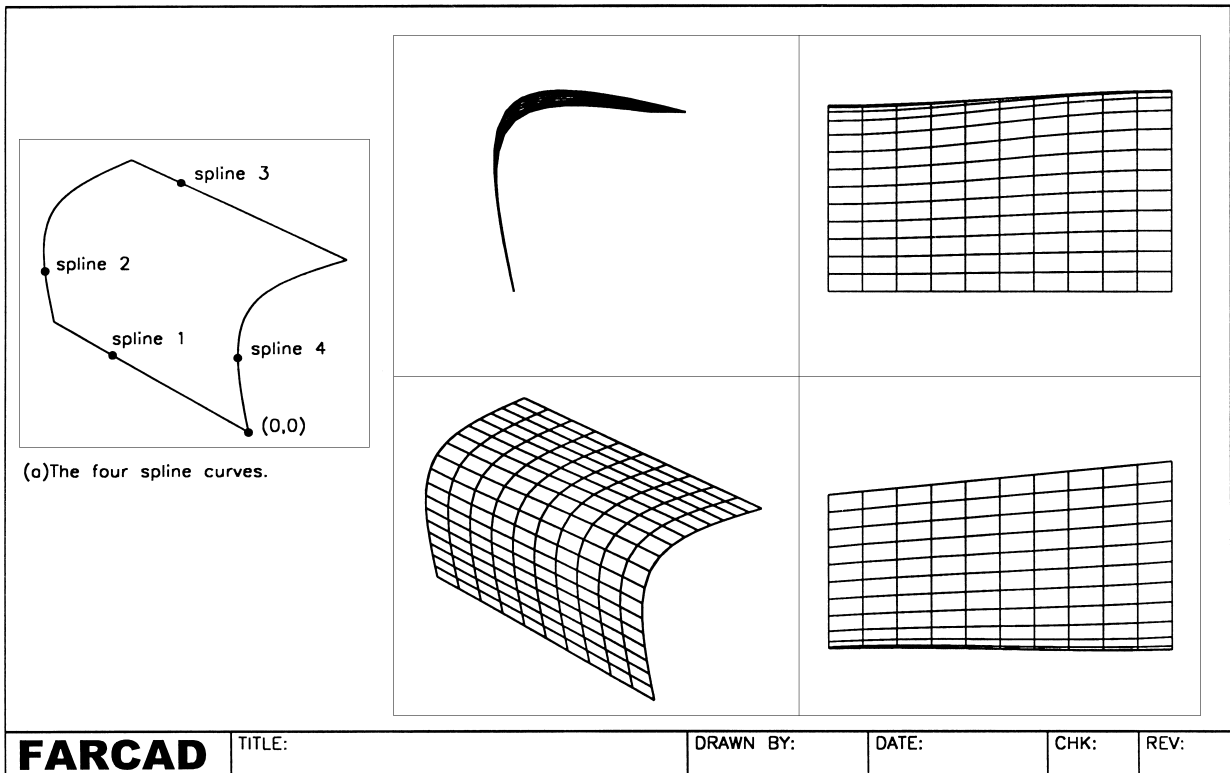

Figure 19.3 Edge surface example 3 – using splines.
- With the lower left viewport active, refer to Fig. 19.3 and by selecting the SPLINE icon from the Draw toolbar, draw four spline curves using the following coordinate information. Use the start and end coordinates as the start and end tangents, indicated by (S) and (E) in the following data table: